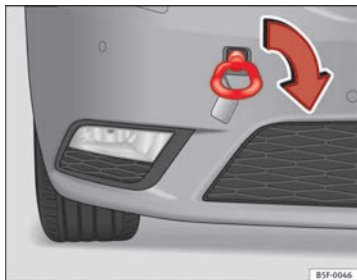

Fig. 128 Right side of the front bumper: towline anchorage screwed in
- Screw the towline anchorage into the screw connection as far as it will go ⇒ **Fig. 128** and tighten with the wheel brace.